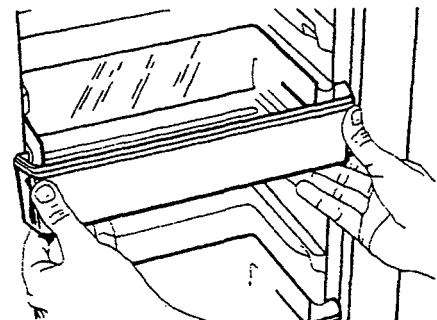

Figure 19
d. To install, slide bucket into grooved area until tabs lock into place. See Figure 19.